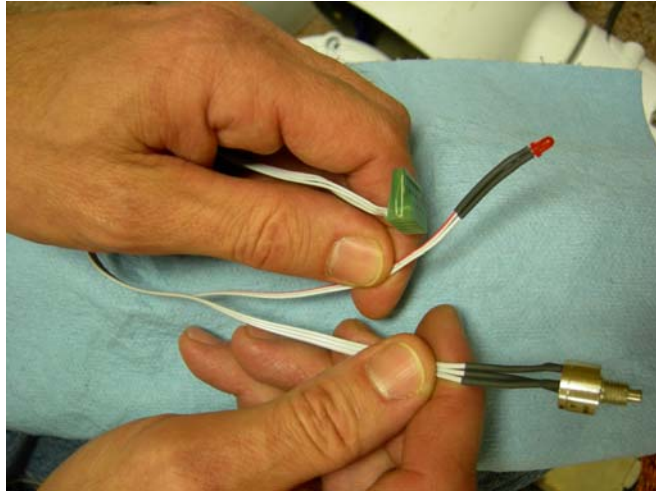

Fig. 6
18. Place the new AIR BREEZE circuit next to the front of the body. Holding the ribbon cable, carefully separate the two LED wires, as a pair, from the potentiometer wires. Leave about 7" of ribbon cable intact (in the five wide form) from the circuit. See Fig. 6